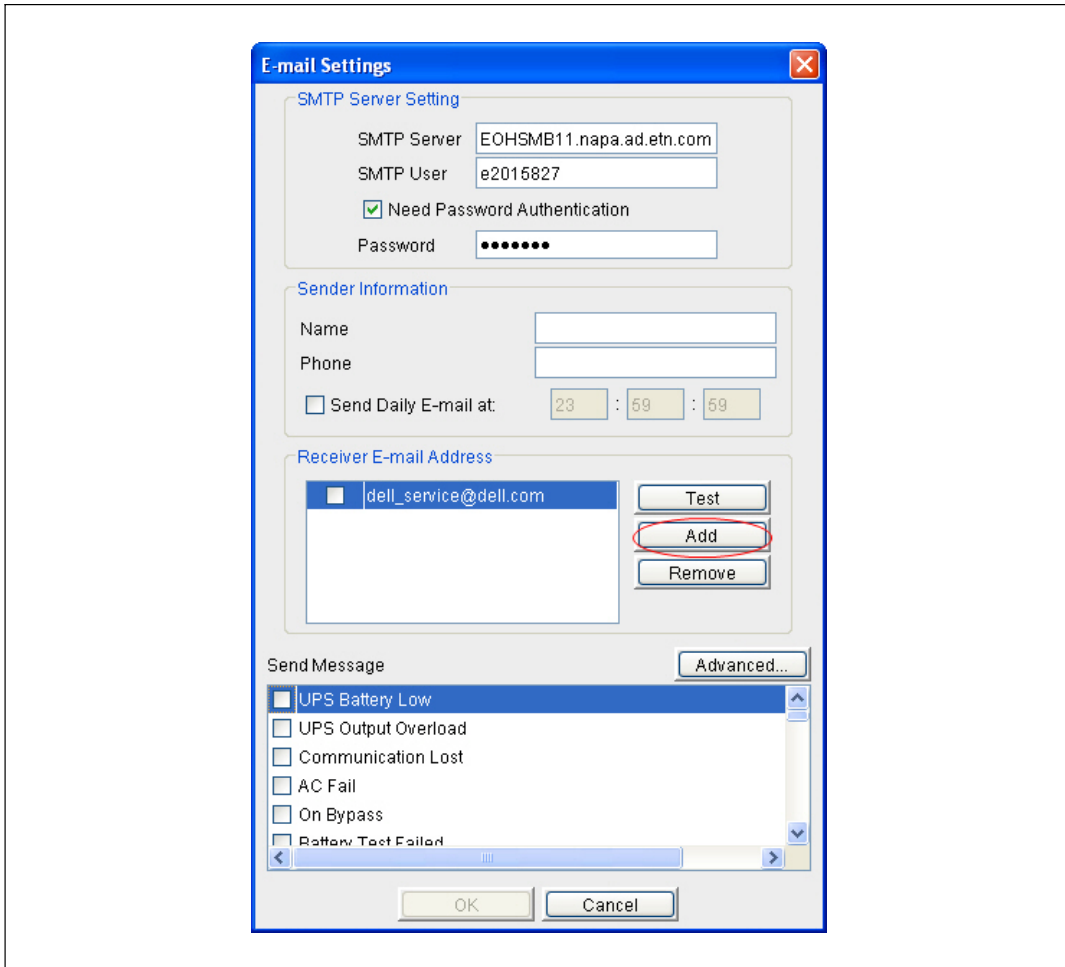
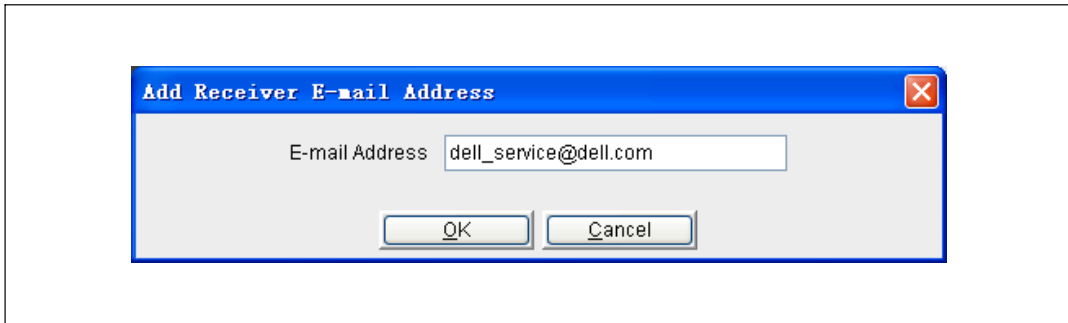

Figure 52. Add Button
Figure 53. Add Receiver E-mail Address Window
- 4 Select the Add button (see Figure 52). The Add Receiver E-mail Address window opens (see Figure 53).